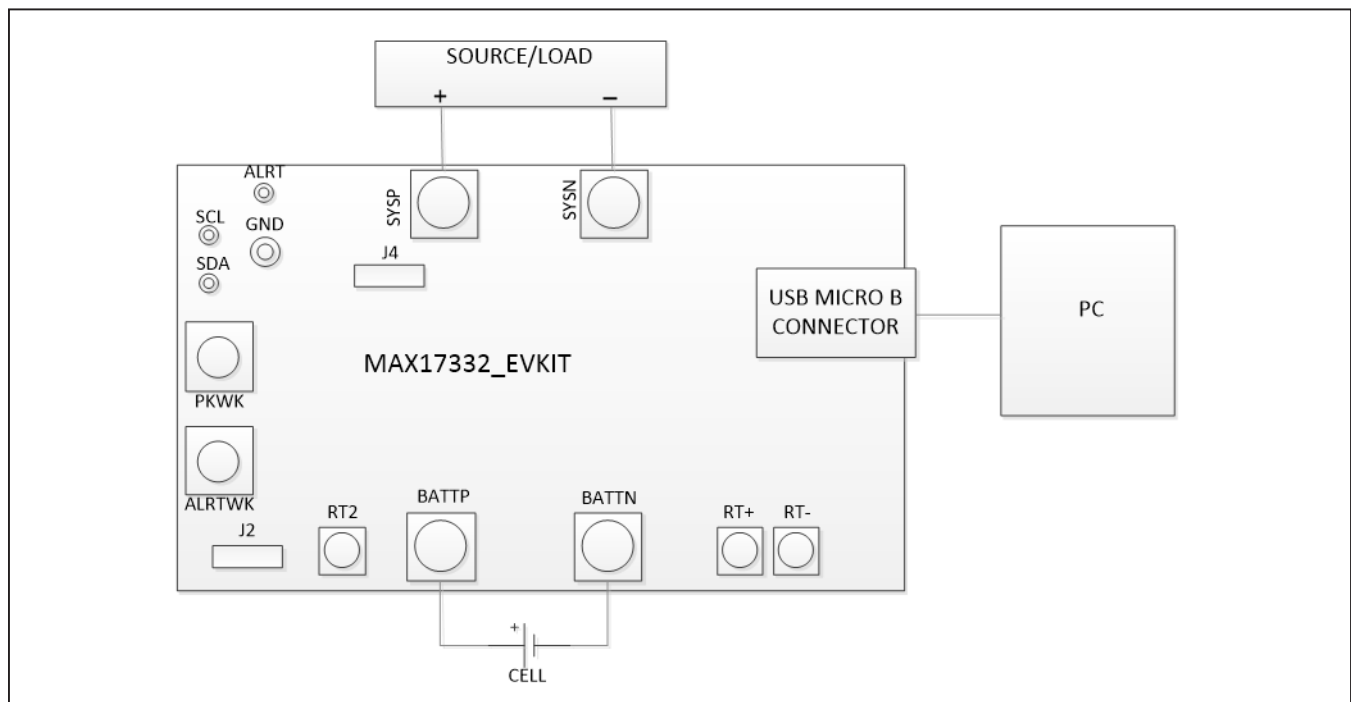

Figure 1. MAX17332 Board Connections
- 5) Make connections to the EV kit board based on Figure 1. The cell connects between the BATTP/BATTN pads. The load or charger circuit can be connected between the SYSP and SYSN pads at this time as well.